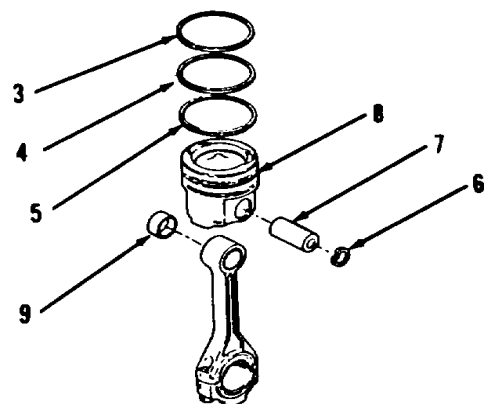

Figure 13-43.
9. Using piston ring expander, remove top piston ring (3), second piston ring (4) and oil ring (5) from piston (8, Figure 13-43).
10. Using retaining ring pliers, remove two retaining rings (6).
11. Remove pin (7).
12. Remove piston (8).